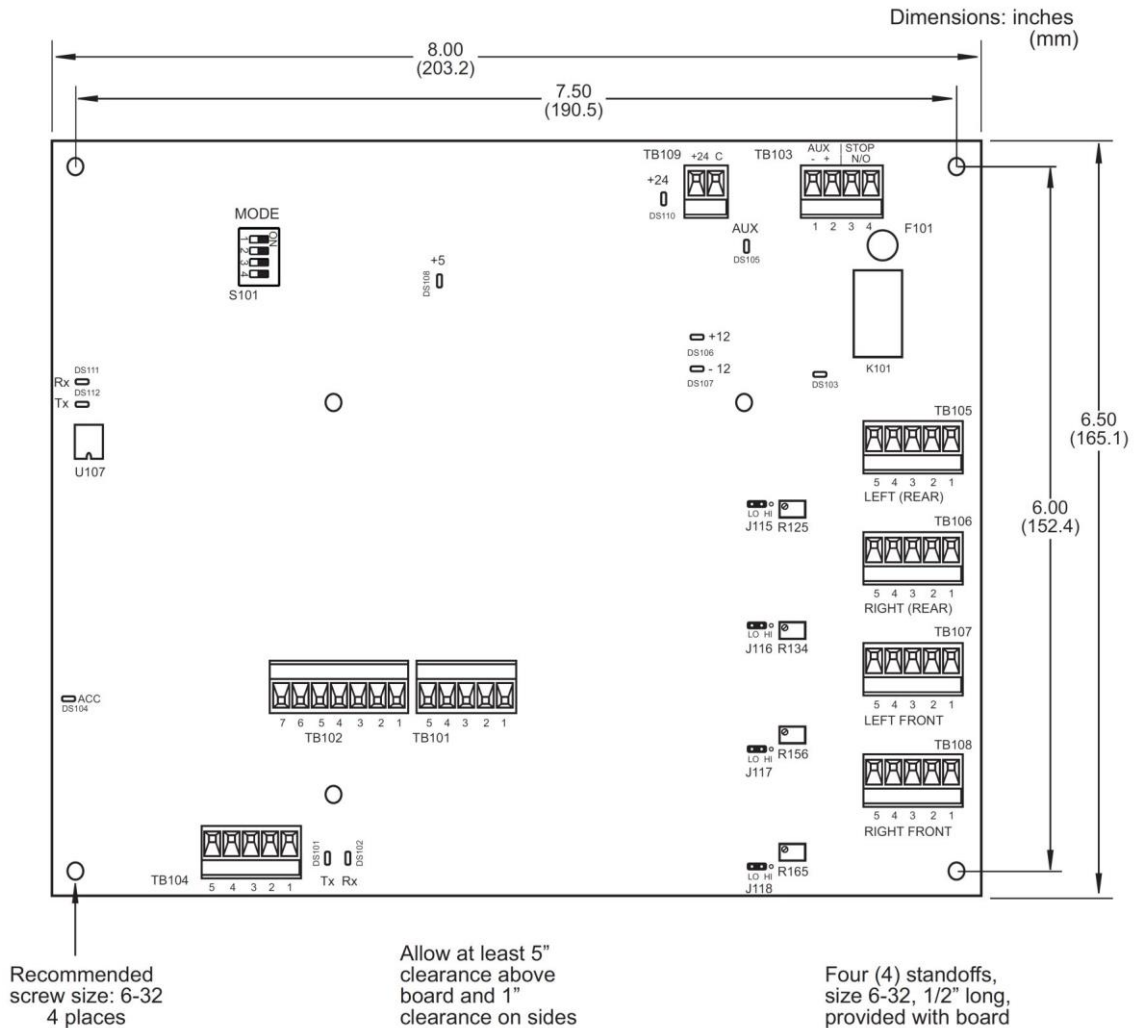

Figure 2-4. AutoSetPAC Processor Board (24 Vdc Version): Mounting Dimensions
2. Mount the board, using the eight (8) standoffs provided, referring to Figure 2-4 for mounting dimensions. (Figure 2-4 shows the AutoSetPAC 4-Channel board. Dimensions of the 2-Channel board are identical.) Standoffs are 6-32 and 1/2" long. Recommended screw size is 6-32 x 3/8".